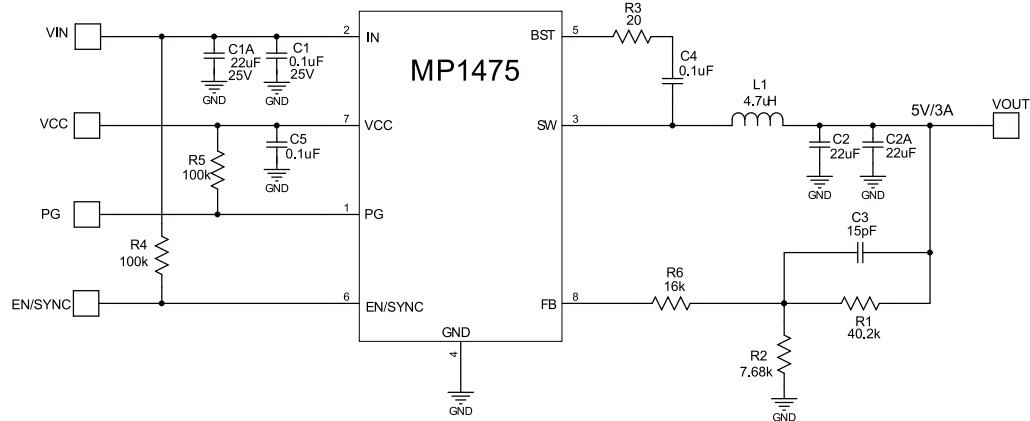

Figure 7: 12VIN, 5V/3A Output
- 8) The recommended layout is based on the Figure 7 Typical Application circuit on the next page.